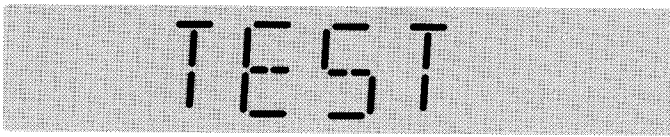

Figure 4-18 Test Display
- Step 1:** Use the **Up** or **Down** pushbuttons to move to the **Test** display menu (Figure 4-18).